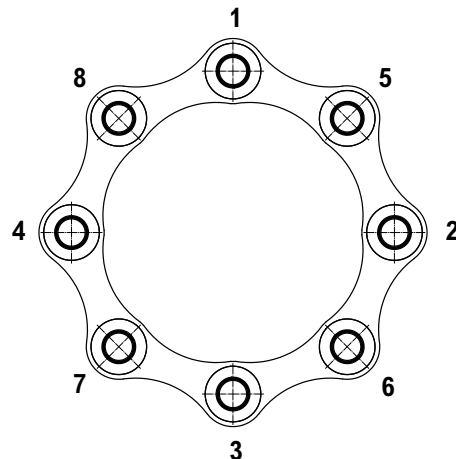

Figure 14
- 8.15 Place Disc against the scalloped flange of center member and align the bolt holes of the disc pack to the holes in the spacer flange as shown in Figure 14.